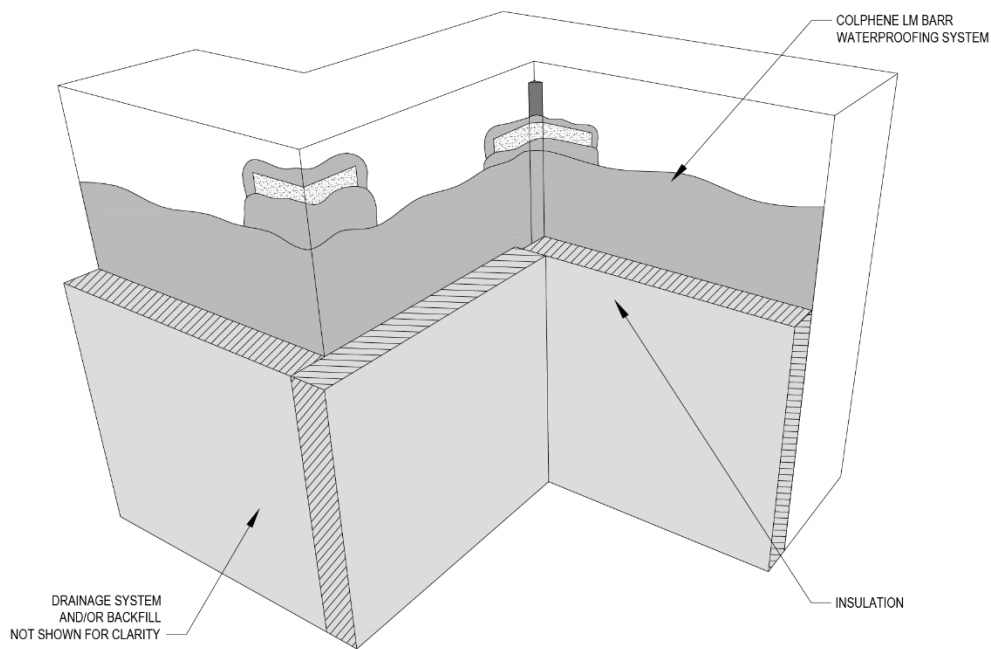
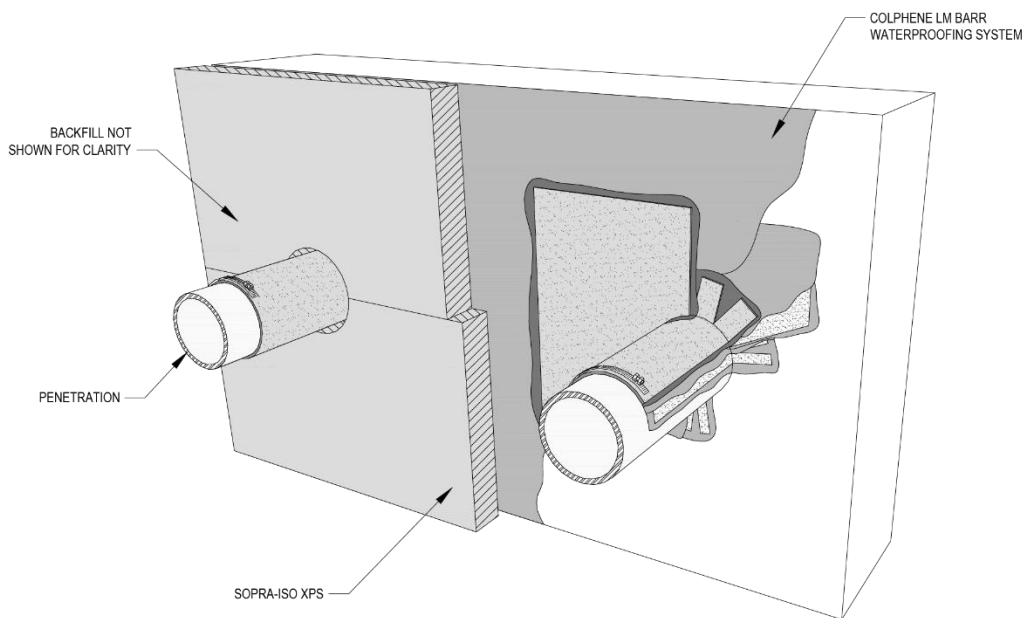
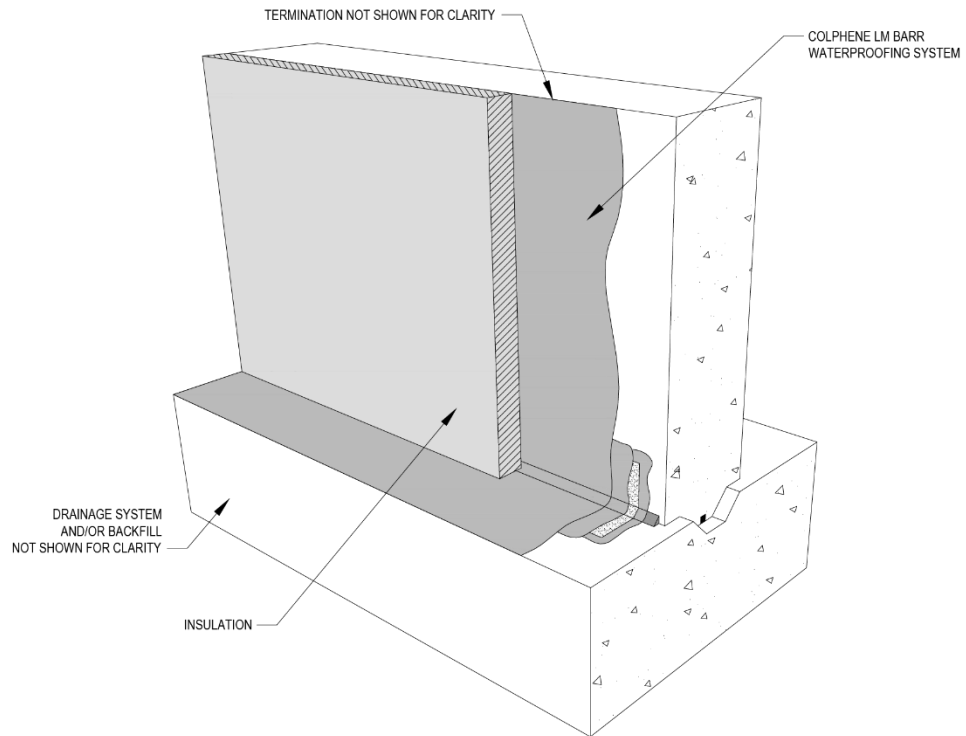

Figure 3.1e Extruded Polystyrene Protection Course At Inside/Outside Corners
Figure 3.1j Extruded Polystyrene Protection Course At Penetrations
Figure 3.1o Extruded Polystyrene Protection Course At Transitions
- Cut insulation boards as needed to conform to the foundation wall conditions. Refer to Figure 3.1e, Figure 3.1j, and Figure 3.1o.